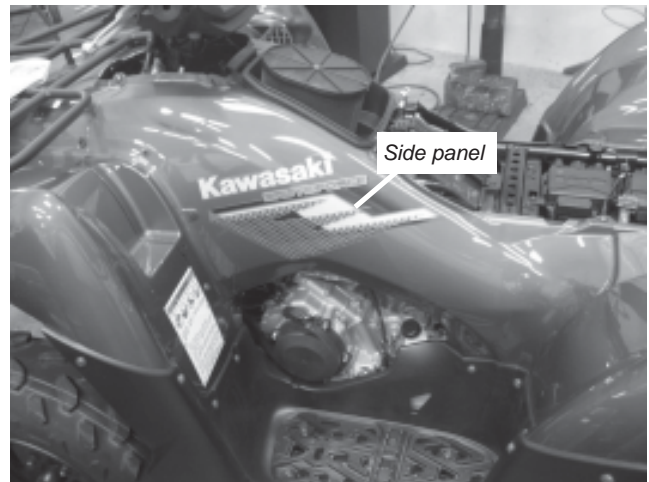

Figure 16
- f. Remove side panel shown in Figure 16.